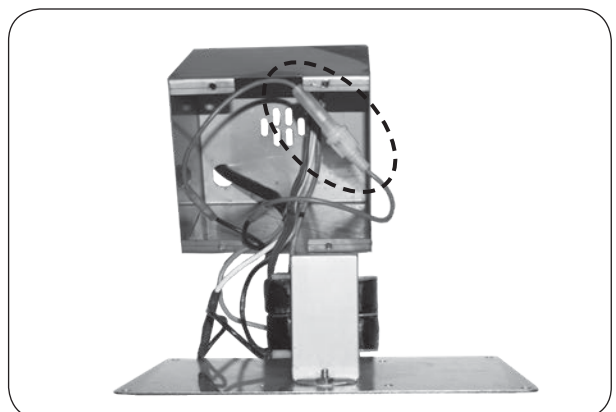

Fig. 39-4 Carefully open box and replace fuse (red wire)
5. Carefully open the box by pulling its cover away. You may need to feed the wire harness into the box to provide enough slack to open on the other end. Then “push in and twist” the fuse holder (red wire), exposing the fuse. See Fig. 39-4.